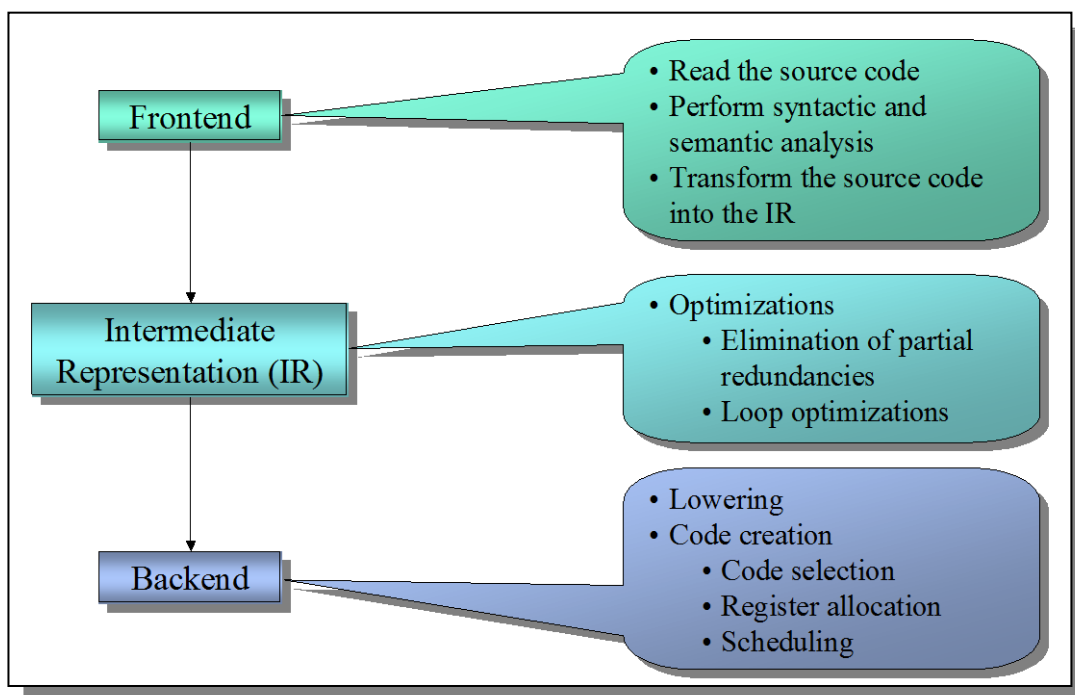

Figure 8-1: A Typical Buildup for a Retargetable Compiler
A typical retargetable compiler is separated into **three** phases, as shown in Figure 8-1. The first stage is architecture independent, but source language dependent. This phase reads the source code, inspects it for syntactic and semantic correctness, and transforms it into the second phase, the intermediate representation (IR). This IR is as well source language independent as architecture independent and it is used to perform the optimizations. This implies, that the optimizations can be easily reused, if the source language or the architecture changes. The third phase is source language independent, but highly architecture dependent. This backend first transforms the IR into a low-level form. That means, that high-level structures, like polymorphic procedure calls are replaced by jump tables or that complex data structures are disassembled into elementary memory accesses. Afterwards the final assembly code has to be created. This part is separated into **three** steps. In the first step, code has to be selected out of the lowered IR. This code selection is not unique, as there are always different possibilities to represent some statements in assem-